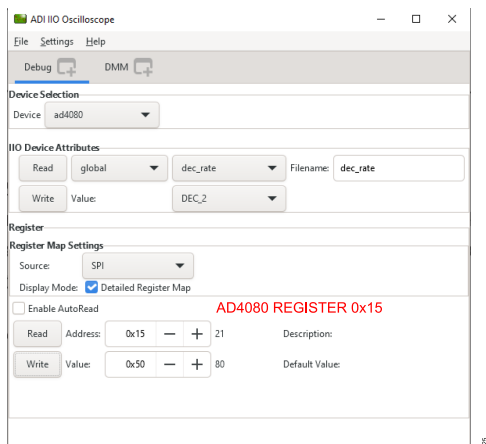

Figure 26. AD4080 Register 0x15 Setting—Value 0x50 for Fixed Test Pattern and 0x40 for Normal Data Acquisition Mode
- ▶ AD4080 Register 0x15 set to 0x50 to enable the fixed pattern test, as shown in Figure 26. This step sets AD4080 in test mode.